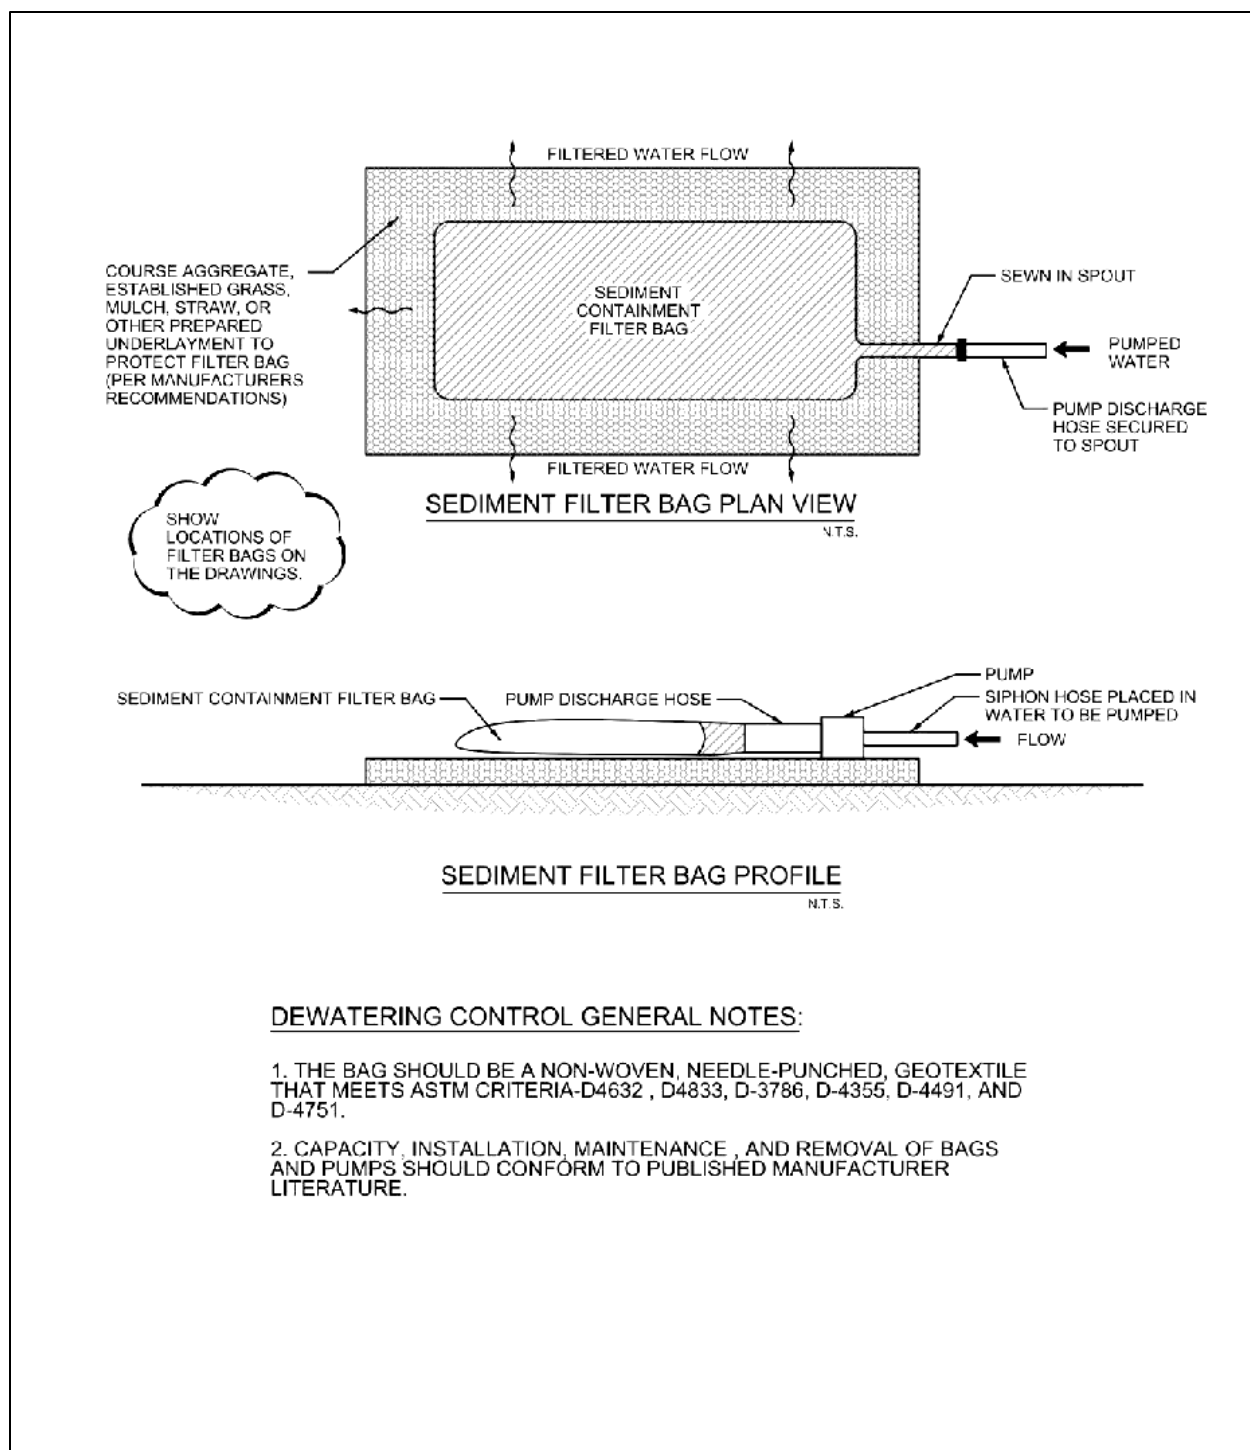

Figure 25: Schematic diagram for sediment filter bag installation
- Where feasible, employ gravity bag filters (dewatering bags) on a slight slope to facilitate water flow and sediment removal (See figure 25).